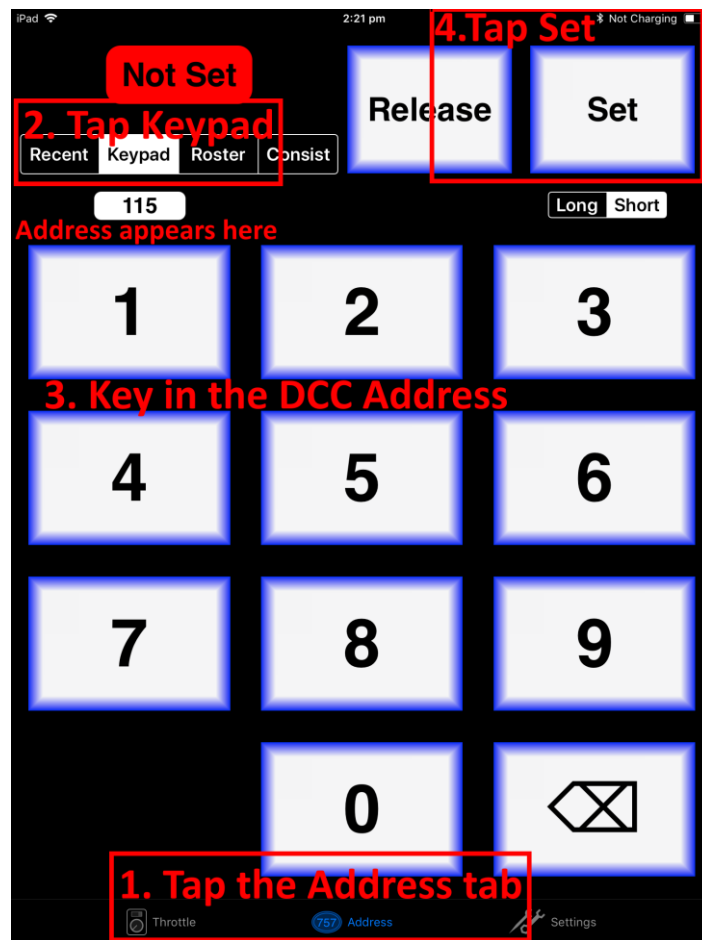

Figure 12 The Address tab of WiThrottle. Select a loco to drive
(10) Now tap the "Address" tab at the bottom (it might go there automatically), tap Keypad and key in the DCC address of the locomotive that you wish to drive then tap the Set button as Figure 12.